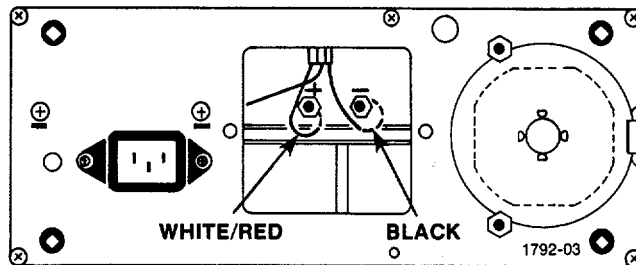

Figure 2-2. Battery Connector Polarity
*When substituting a dc power supply or external battery for the battery pack, be sure the polarity is correct. See Fig. 2-2.*